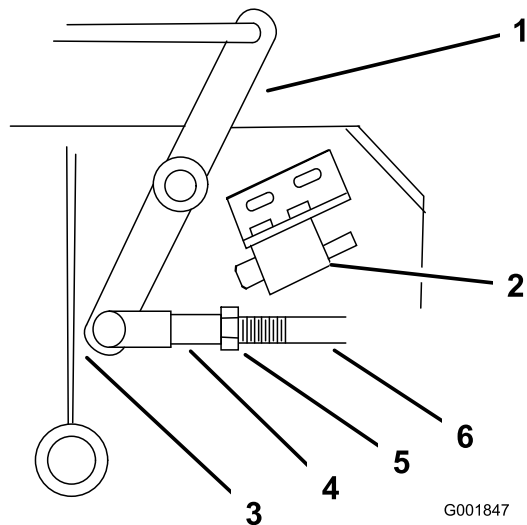

Figure 45
4. Adjust the linkage length so that the lower end of the bellcrank just clears the axle support gusset (Figure 45).
9. Loosen the nut against the yoke (Figure 45).